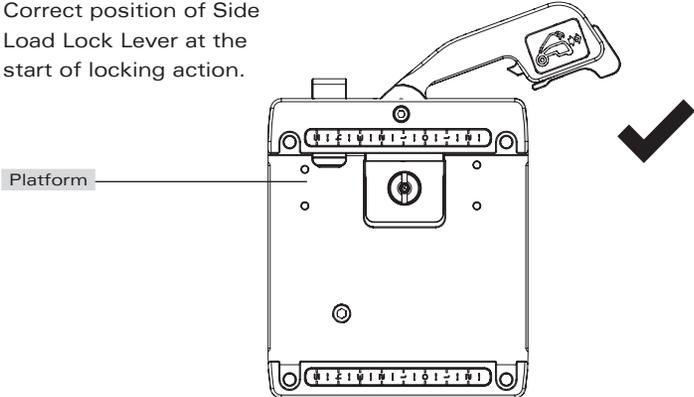

Fig. 9
- 3.3 With the CAMERA PLATE in place, gently push the SIDE LOAD LOCK LEVER towards the PLATFORM until resistance is felt – this is the start of the locking action. Check the position of the SIDE LOAD LOCK LEVER as shown in (Fig. 9).
- 3.4 Adjustment is necessary if the SIDE LOAD LOCK LEVER position is outside the recommended range. Follow (Fig. 9) to determine the correct method of adjustment.
- 3.5 Using a 3mm Hex key unlock the LOCK SCREW (fig. 8), then using a broad flat screw driver turn the ADJUSTING SCREW (Fig. 8) in the direction shown by 1/8 of a turn and re-check step 3.3, repeat 3.4 if necessary. When adjusted correctly, the SIDE LOAD LOCK LEVER will be smooth to operate and requires modest effort to lock the CAMERA PLATE (Fig. 9).